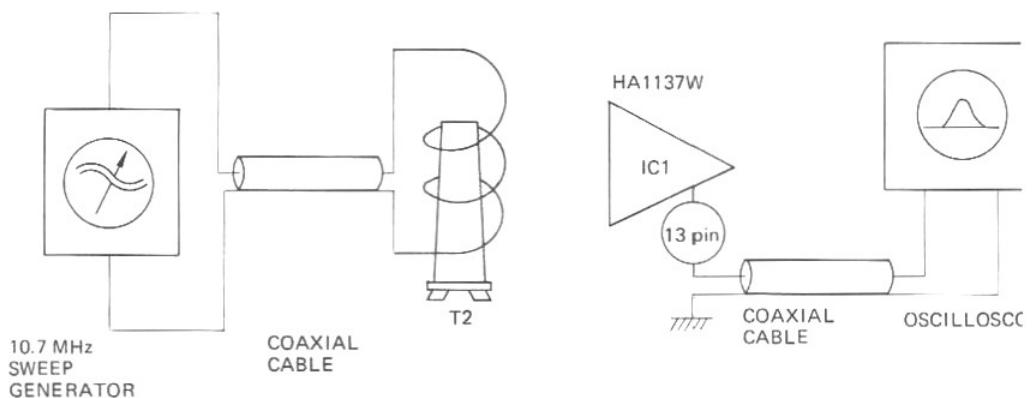

Figure 3.
- 1) Couple the output of the sweep generator to T2 (RF Transformer) through a coupling coil Figure 3 (A).
- 2) Connect the detector probe to the pin 13 of IC1 and "G" (ground) as shown in Figure 3 (B) hot lead of the probe should be made as short as possible and the ground lead should be connected to chassis ground.